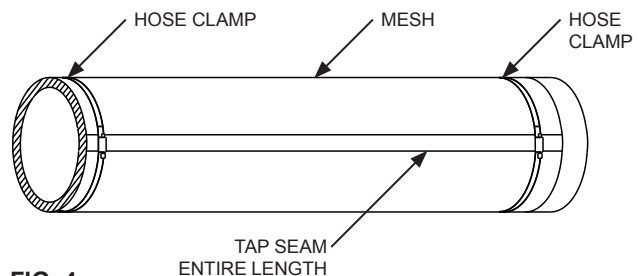

FIG. 4
- Step 6:** Apply foil tape along the entire length of flex liner. Unroll the mesh and slip it around the outside of insulation starting at the bottom end. Pull the mesh up the liner to the top end. Secure mesh to flex liner at bottom with a hose clamp (See FIG. 4). Pull mesh towards top end until it is tight against the insulation and secure with hose clamp.